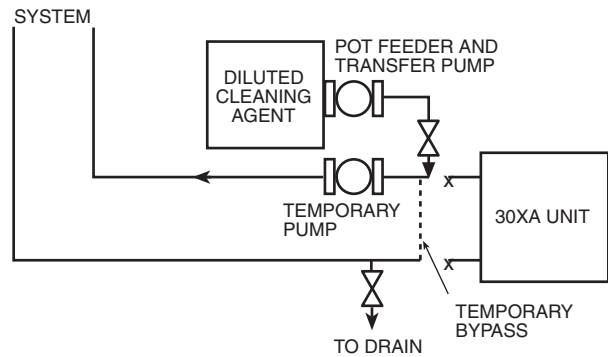

Fig. 31 — Typical Set Up for Cleaning Process
1. Install a temporary bypass around the chiller to avoid circulating dirty water and particulates into the pump package and chiller during the flush. Use a temporary circulating pump during the cleaning process. Also, be sure that there is capability to fully drain the system after cleaning. See Fig. 31.